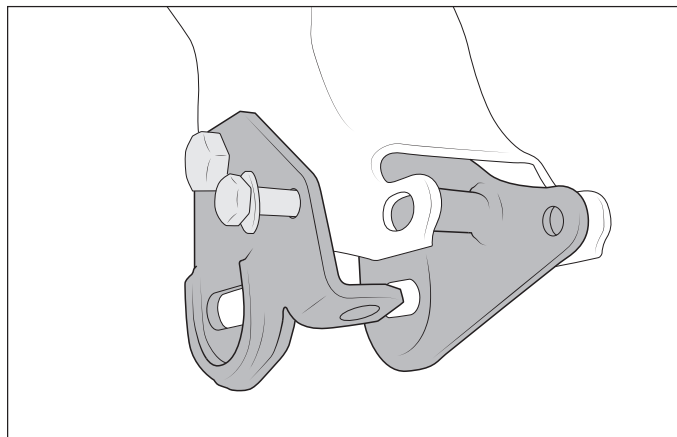

Figure 8
- C. Install rear LCA brackets (NRMS0525, NRMS0526, NRMS0527, and NRMS0528) as shown (fig. 8). M12x150mm bolts and washers must be inserted pointing rearward in order to clear differential and retain skidplate. Leave nuts off of them until skidplate is installed. M18 bolts should also point rearward, nuts can be loosely installed.